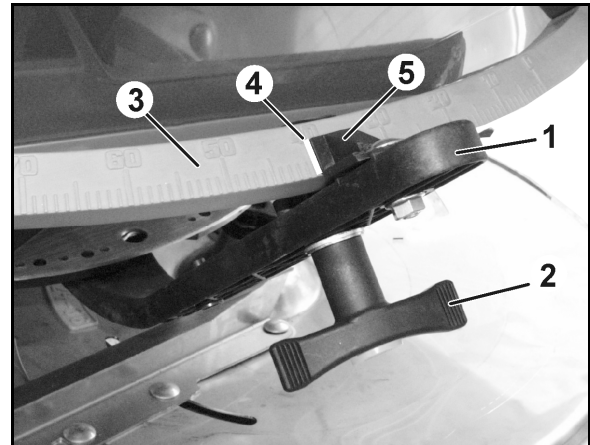

Fig. 52
2. Undo the butterfly nut (Fig. 52/2).
3. Look for the required slider position on the scale (Fig. 52/3).
4. Adjust the read-off edge (Fig. 52/4) of the setting lever pointer (Fig. 52/5) so that it corresponds to the scale value.
5. Retighten the wing nut (Fig. 52/2).